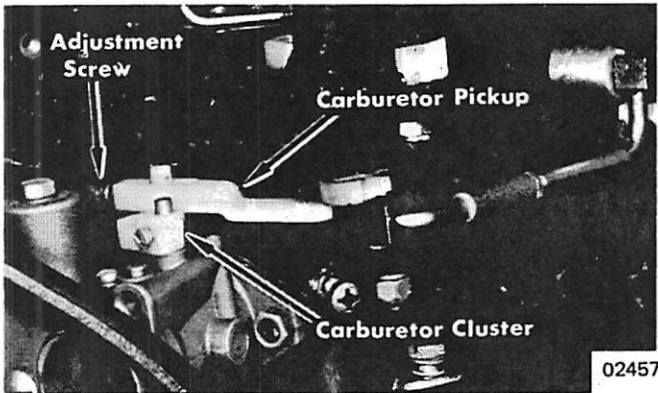

Figure 3. Carburetor Pickup and Cluster
2. Advance throttle against full throttle stop. Carburetor shutter should be in the full throttle position. Adjust screw (Figure 3) in or out to obtain correct setting. Allow